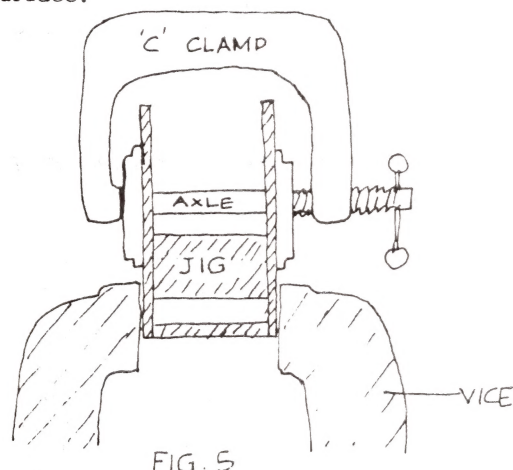

FIG. 5
Step 6 - remove the work from the drill chuck, place on a flat surface, and gently tap the second wheel set into the other end of the axle. Place the wheel set in the jig, held in a vice, and, using a C clamp, force the wheels into their final position on the axle. See Figure 5. Repeat for all the wheel sets required, and check that they run true, by rolling them on a flat surface.